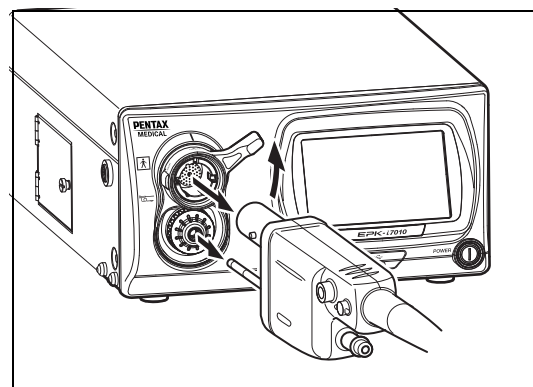

Figure 6.1
- 2 Press ① to turn off the processor.
- 3 Disconnect the power plug, endoscope, and water bottle assembly. (Refer to Figure 6.1.)